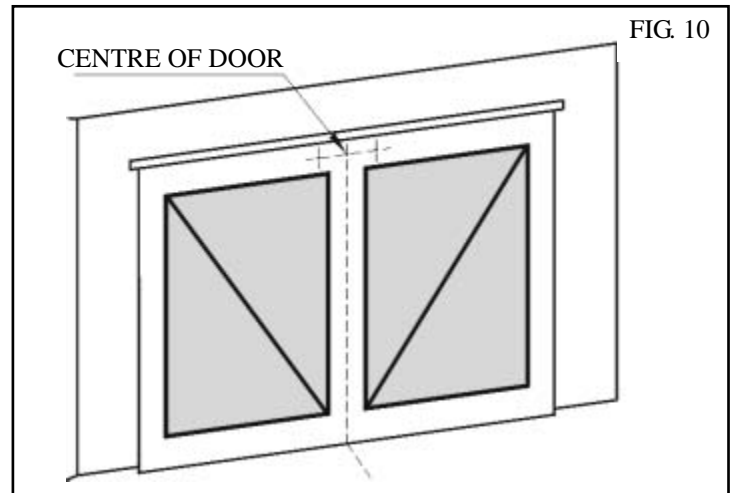

FIG. 10
Determine the centre of the door and mark this location on the wall above and on top of the door. Then draw two (2) lines 21.5mm on each side of the door. (Fig. 10).